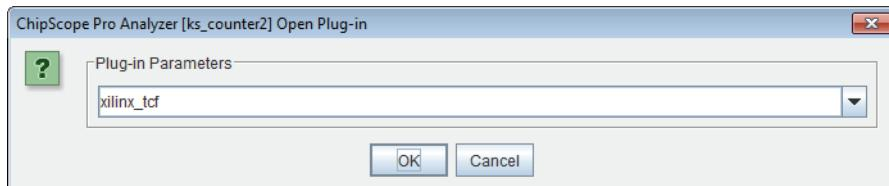

Figure 5-9: Connecting to the Target Board
6. In the ChipScope Pro Analyzer, connect to the target board by using the **JTAG Chain > Open Plug-in** menu option set to **xilinx\_tcf** (see Figure 5-9).